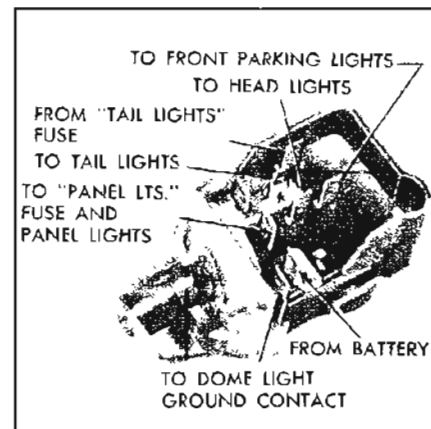

Figure 10-52—Lighting Switch—Bottom Side
**NOTE:** The square and round lugs on the bottom of the rotor must be positioned in the corresponding holes in the weight base plate. See Figure 10-52.
If the lighting switch is suspected of being faulty, the contacts can be tested by connecting a low reading voltmeter between the wire supplying current to the contact and the wire conducting current away. This must be done with the switch in a position where the contact under test is closed. See Figure 10-52.